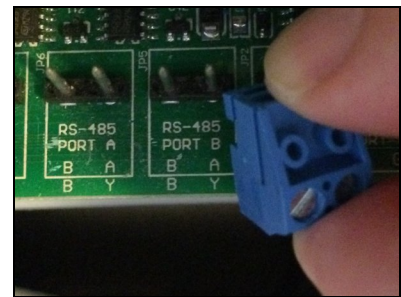

Figure 10 - Removing Blue Connector From Port "B"
- The blue connectors can be removed for ease in wiring and to properly identify the correct port. See Figure 10.